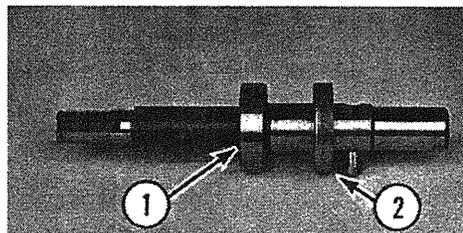

Fig. 2-9
- E. The lower bearing (1, Fig. 2-9) and seal (2, Fig. 2-9) can be removed from the shaft. The bearing must be removed from the top of the shaft.